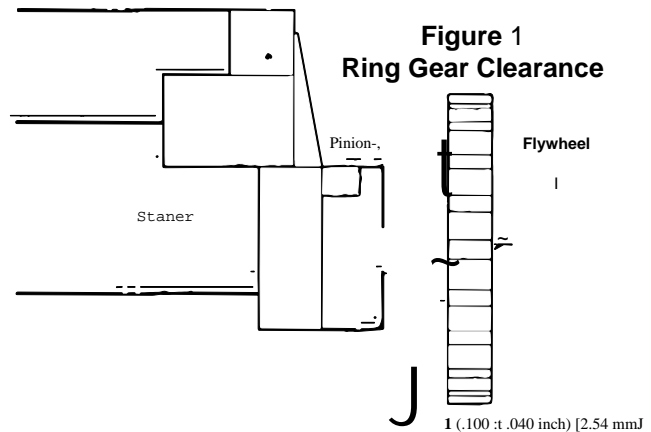

Figure 2 Pinion Backlash
- 2) Measure clearance between meshing gears. (See Fig. 2.)